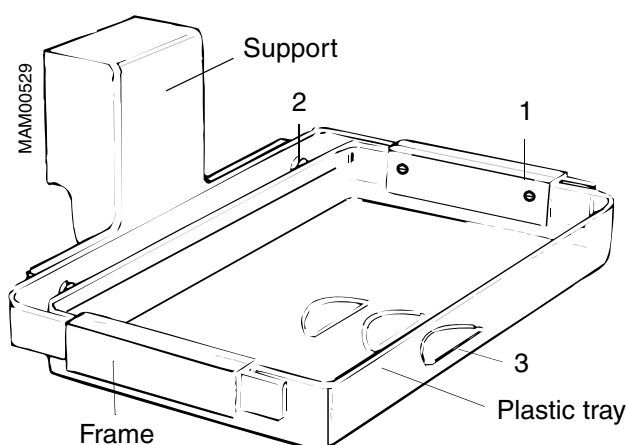

Fig. 1
1. Loosen the four screws (1/Fig. 1) and remove the plastic tray from the frame.
2. Loosen the two Allen screws (2/Fig. 1) and remove the frame from the support.
3. Fit the new frame to the support and fasten with the two Allen screws (2/Fig. 1) and washers.
4. Then fit the new plastic tray to the frame and fasten with four new screws (1/Fig. 1) and washers, but do not screw tight.
Check that the plastic tray is correctly inserted regarding the AEC detector markings (3/Fig. 1).
In the first step the fixation of the plastic trays, material number 64 83 809 and 64 83 817 were modified, the four screws (1/Fig. 1) are being led inside of special plastic bushings (Fig. 2). These bushings have to be inserted from inside of the tray, their collar staying inside (see Fig. 3)